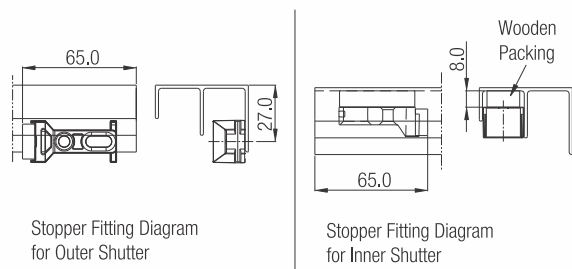

Fig. 4B
- 6.2 Fit the Bottom Stoppers as shown in Fig 4B. (Use 8mm Wooden Packing for Inner Shutter).